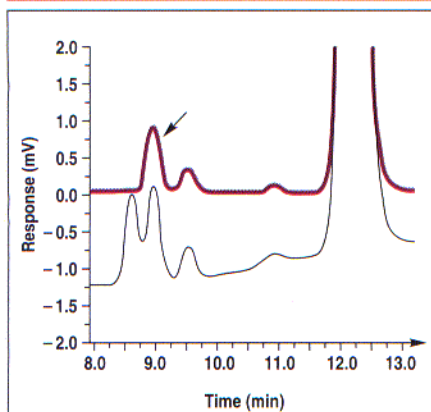

FIGURE 3: Degradation products of a major peak at 254 nm (upper chromatogram) and 215 nm (lower chromatogram). See text for discussion.
J.R. Kern of LC Resources Inc. (Walnut Creek, California) submitted a good reminder about the importance of using more than one wavelength if peak purity is a concern. His laboratory was trying to isolate and identify degradants of a new, synthetic pharmaceutical product. The laboratory personnel had developed a reversed-phase method that separated at least three impurities eluted before the main peak when the eluate was monitored at 254 nm (upper chromatogram in Figure 3). They used an LC system with a diode-array detector to calculate a peak-purity index for each peak.
Figure 3), indicating that the peak was partially overlapped with another peak (a purity index of 1.0 indicates a pure peak). Visual inspection of the chromatogram shows only a slight suggestion of a peak on the leading edge of the peak of interest. When the eluate was monitored at 215 nm, however, the overlapping peak is obvious (lower chromatogram in Figure 3).